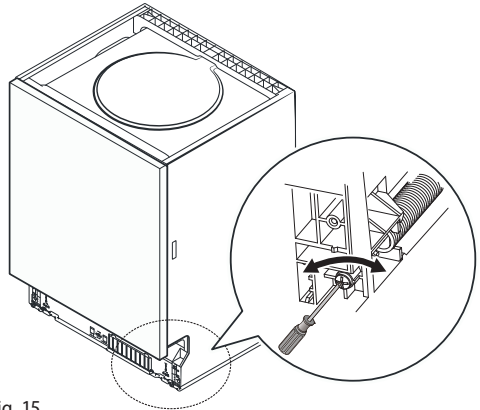

Fig. 15
- You adjust the strength of the springs using the screws located on the bottom part of the front of the dishwasher (Fig. 15).
- You adjust the strength of the springs (left and right) using the screws located on the bottom part of the front of the dishwasher (Fig. 15). To increase the strength turn clockwise. To decrease the strength turn counter clockwise.